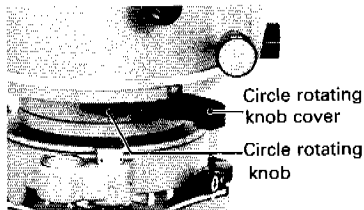

Fig. 11
2. Pull the circle rotating knob cover and turn the circle rotating knob. (Fig. 11)